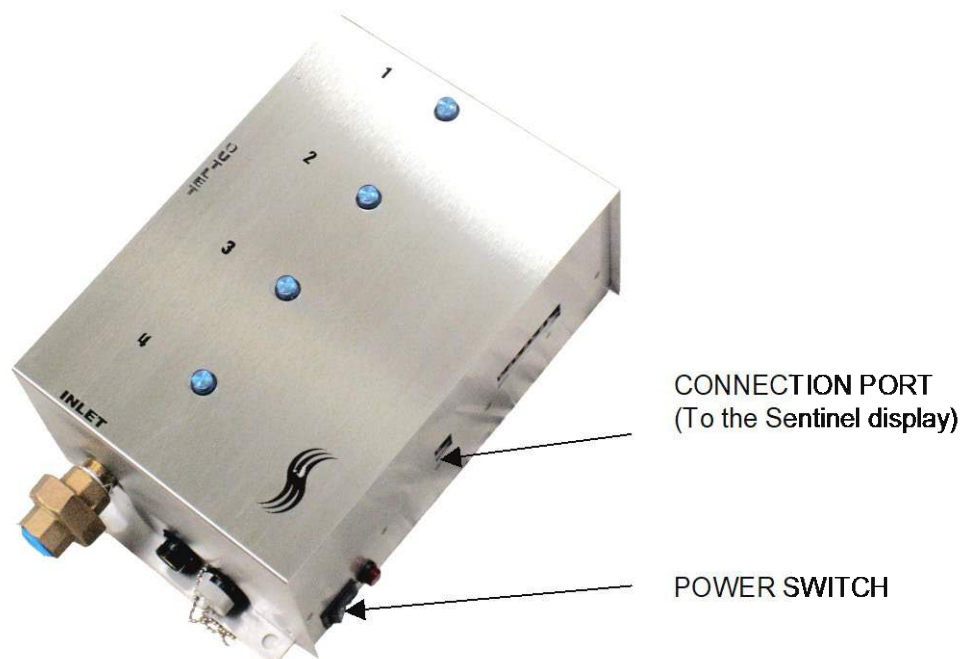

Figure 12: Steam Distribution System
4. Ensure the Steam Distribution System (DS-SDS) is powered-down (off). Connect the other end of the control cable to the Steam Distribution System (DS-SDS) at the Sentinel connection port (**Figure 12**).